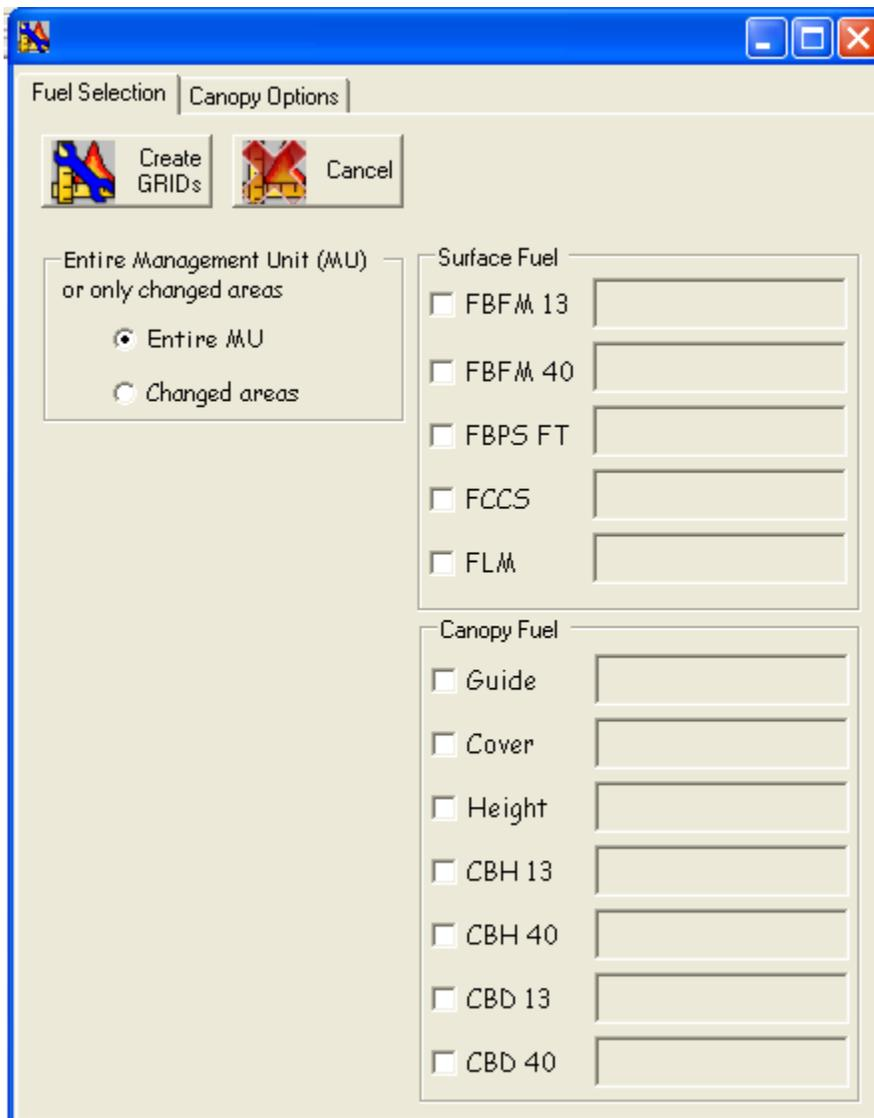

Figure 7-38. Fuel and canopy option selection box with **Fuel Selection** screen visible.
The following dialog box with the **Fuel Selection** tab visible will open (fig. 7-38).
- Check “**Also use rule values that are not 9999**” or change the Canopy Cover (CC) and/or Canopy Height (CH) by checking the “**Multiply by**” box and entering desired values.
- When finished with both **Fuel Selection** and **Canopy Options** tabs make sure the **Fuel Selection** page is open, and click the **Create GRIDs** button at the upper left (fig. 7-38).